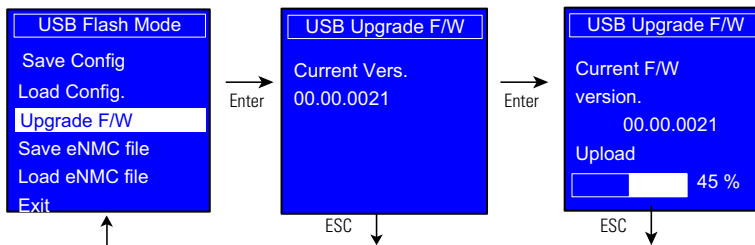

Figure 73. Example Upgrade in Progress Display
9. A few seconds after 100% is reached, the eNMC module restarts and then enters in Boot upgrade mode to continue upgrade. The upgrade is finished when eNMC module is restarted. This can take several minutes (see Figure 73).